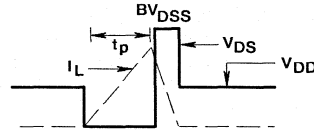

FIGURE 15. UNCLAMPED ENERGY WAVEFORMS
- $V_{DD} = 40\text{V}$, starting $T_J = +25^\circ\text{C}$, $L = 5.66\text{mH}$, $R_{GS} = 50\Omega$, $I_{PEAK} = 15\text{A}$. See Figure 15.